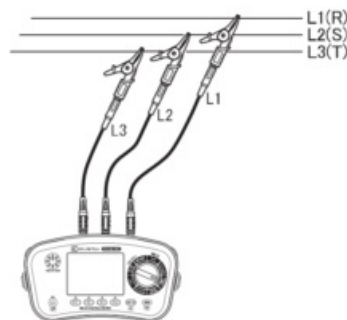
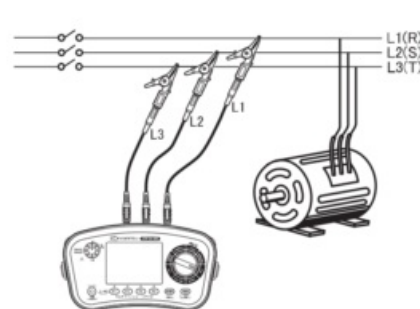

Fig. 12-3 Phase rotation check
Fig. 12-4 Motor rotation check
4. Connect the test leads to the circuit under test. (Fig. 12-3, Fig. 12-4)